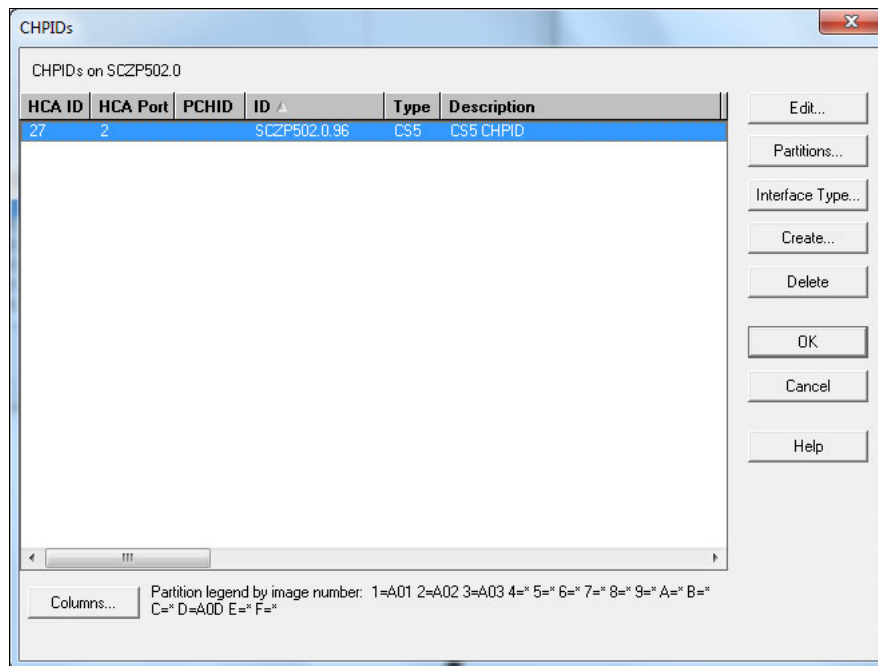

Figure 5-28 HCM - CHPIDs: second CS5 CHPID defined
15. Select the required Access and Candidate LPARs for CHPID access list. In our example, we use LPAR A0D (CF) and A01, A02 and A03 (OS), and no Candidate LPARs. Click **OK**.
16. Now observe the CS5 CHPID defined in the CHPID summary list (Figure 5-28).